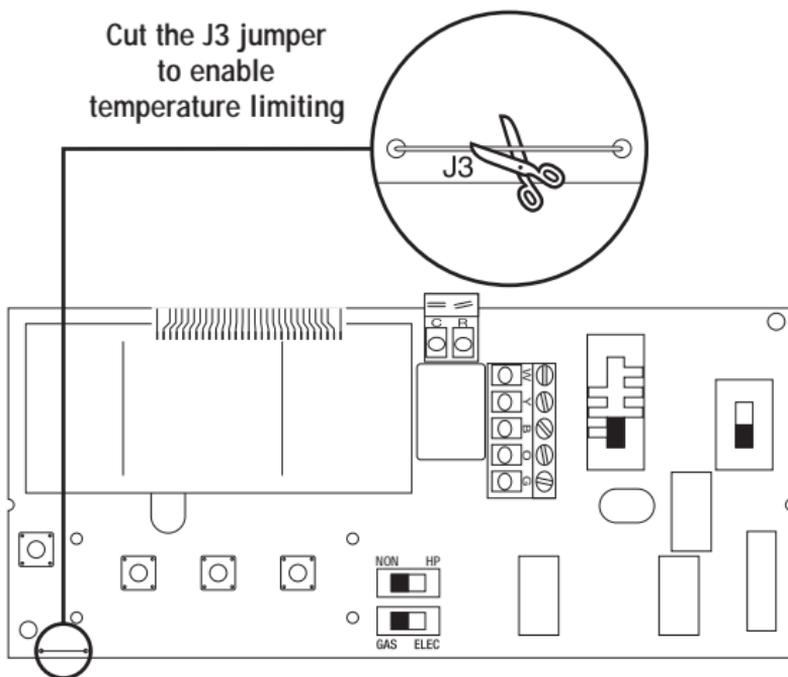

Figure 7
17. A temperature limiting jumper has been included in this thermostat. Cutting this jumper (J3) limits the heating setpoint to no greater than 72°F and the cooling setpoint to no lower than 78°F (Figure 7).
NOTE: IF THE TEMPERATURE LIMITING JUMPER J3 IS CUT (FIGURE 7), THE DEADBAND IS NOT ADJUSTABLE AND IS AUTOMATICALLY SET TO 6°F (3°C).